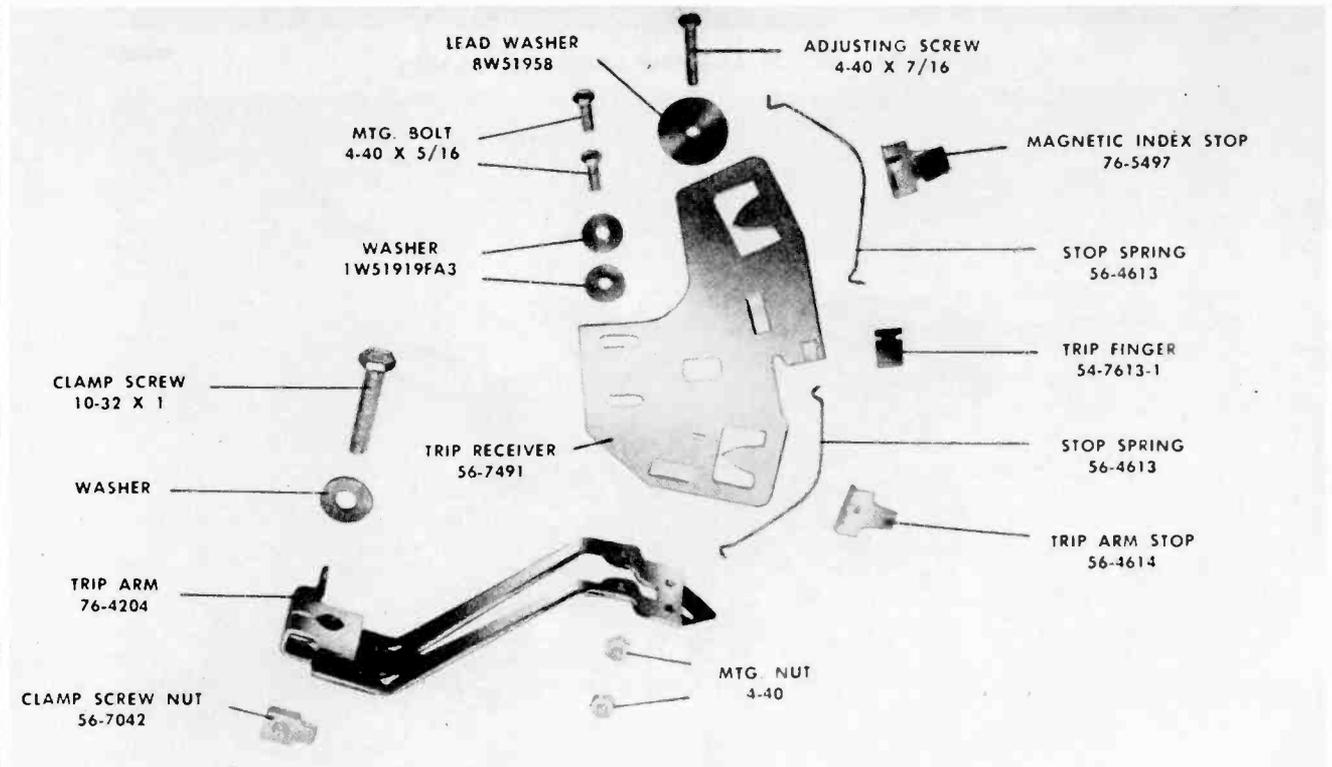

FIGURE 14. TRIP-ARM AND TRIP-RECEIVER ASSEMBLIES
- Remove trip arm, and disengage link spring. Figure 14 shows trip-arm and trip-receiver assemblies.